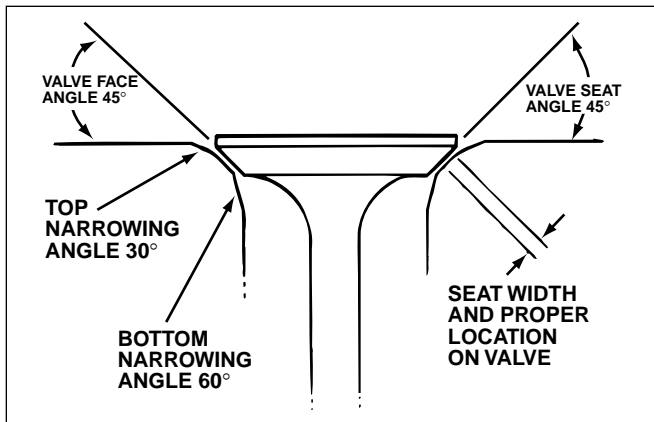

Fig. 2-25. Three-angle valve seat grinding positions the contact patch on the valve face for proper sealing.
5. Recheck contact and position. If the contact patch is too wide, alternately top and throat until the desired width is achieved, figure 2-25